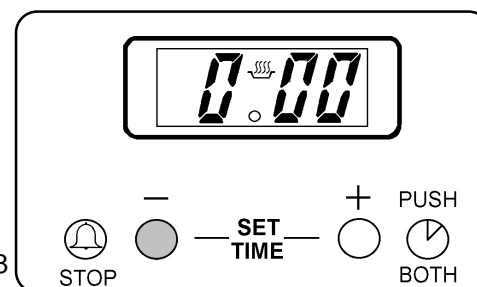

Fig. 8
Press and hold button (1) and the display will count down in one minute intervals to 0:00. See Fig. 8.
- v) Set the STOP time. Press the stop time button (🛑) press the increase control (+) until the required stop time is displayed. e.g. 12.15p.m. Fig. 8.